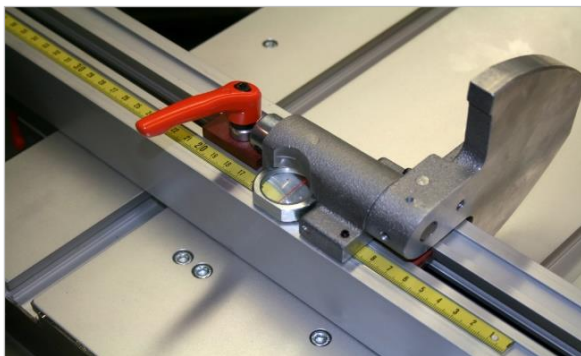

Figure 56: Flip stop (left to the saw blade)
- Move the flip stop on the rip fence to the dimension previously set on the cross-cut fence (⇒ Figure 56).